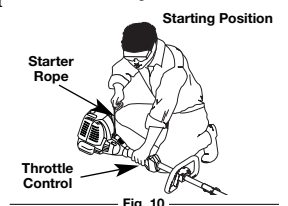

Fig. 10
**WARNING:** Avoid accidental starting. Make sure you are in the starting position when pulling the starter rope (Fig. 10). To avoid serious injury, the operator and unit must be in a stable position while starting. Make sure that any Add-On item is installed correctly and secure before starting the unit.
5. Crouch in the starting position (Fig. 10). Squeeze the throttle control lever. Pull the starter rope 5 times.